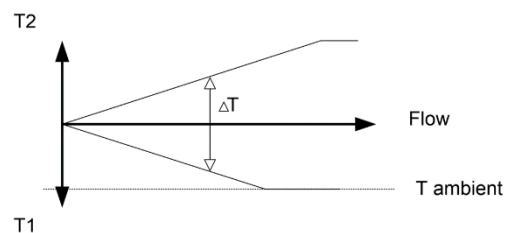

Figure 1: Sensor Operation
In the case of *red-y* mass flow measuring instruments, a constant heat input gives a flow-dependent temperature difference (ΔT). Two temperature sensors are positioned in the measuring channel (T1, T2), one before the heating system (H) and one after it (see Figure 1).